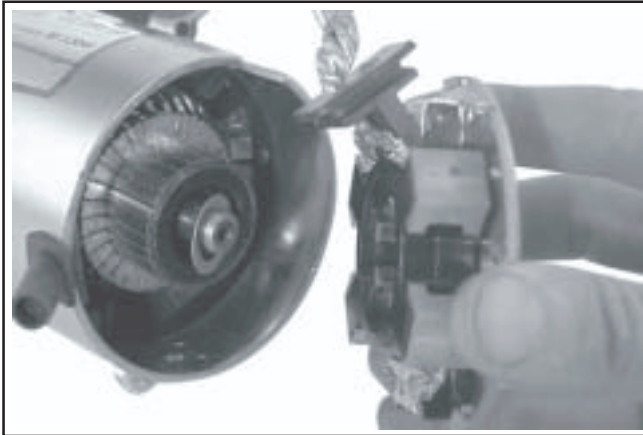

Figure 8-15. Removing Commutator End Plate Assembly.
5. Remove the commutator end plate assembly, containing the brush holder, brushes, springs, and locking caps. Remove the thrust washer from inside the commutator end. See Figure 8-15.